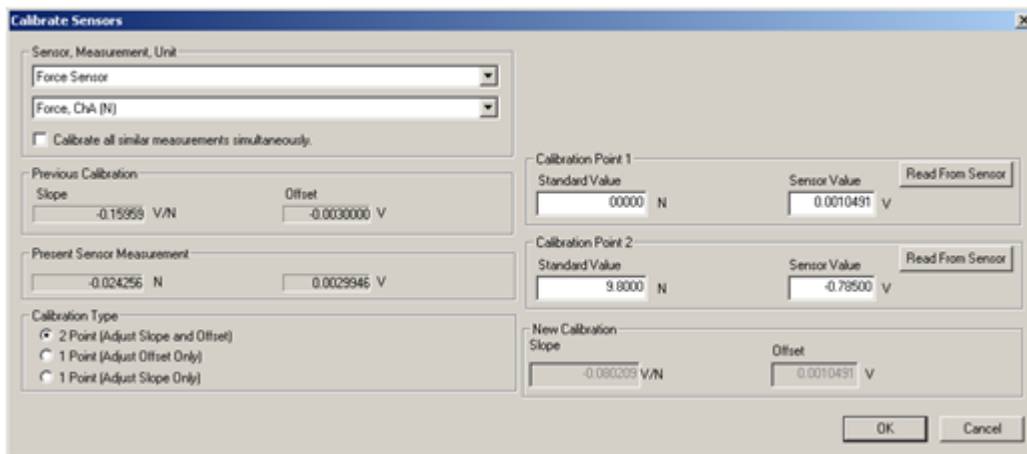

Figure 3: Calibration of force sensor in Data Studio
- 2 Before taking the actual data, calibrate the force sensor. Click the "Setup" button in the toolbar. Then click on the force sensor icon and press the "Calibrate Sensors" button. This brings up the calibration panel shown in fig. 3.